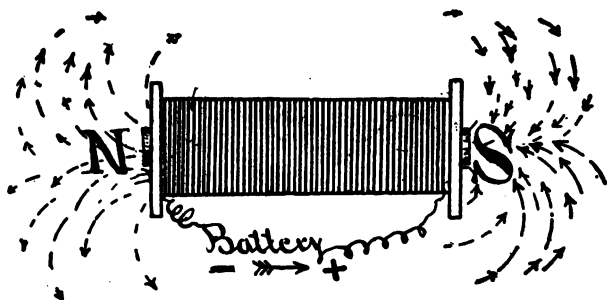

Fig. 93. An Electro-Magnet with its Magnetic Field.
Fig. 93 shows this, as well as the lines of magnetic action.
(5) The helix or coil is usually not wound on the core but on a spool of brass or bronze. The ends of this spool are called the flanges and show in Fig. 93.
(6) On horse shoe magnets the iron connecting the two cores is called the yoke.
Question 10. Why is the left end an N-pole and the right end a S-pole. (In Fig. 93).